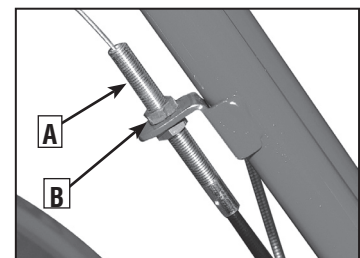

Figure 2-9
3. Attach the cable adjuster (A, Figure 2-9) to the bracket on the right-side handlebar. Use two 1/2" wrenches to loosen the two jam nuts (B) just enough to slide the cable adjuster onto the bracket. Then hand tighten the jam nuts.